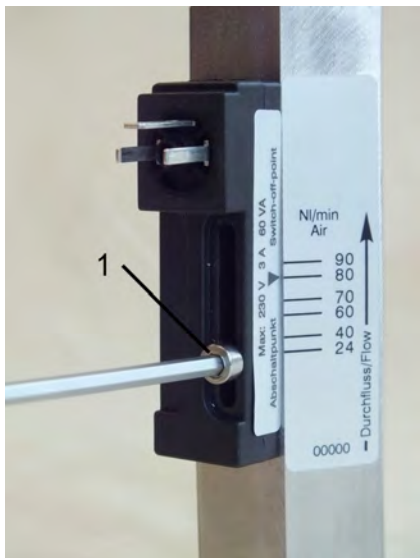

Fig. 32: Loosen the set screw
1. ➤ Loosen the set screw of the switch contact (Fig. 32/1) using a Hex-Screwdriver screwdriver.
3. ➤ Re-tighten the set screw of the switch contact (Fig. 32/1) using a Hex-Screwdriver. When doing so, observe the correct tightening torque of the screw.